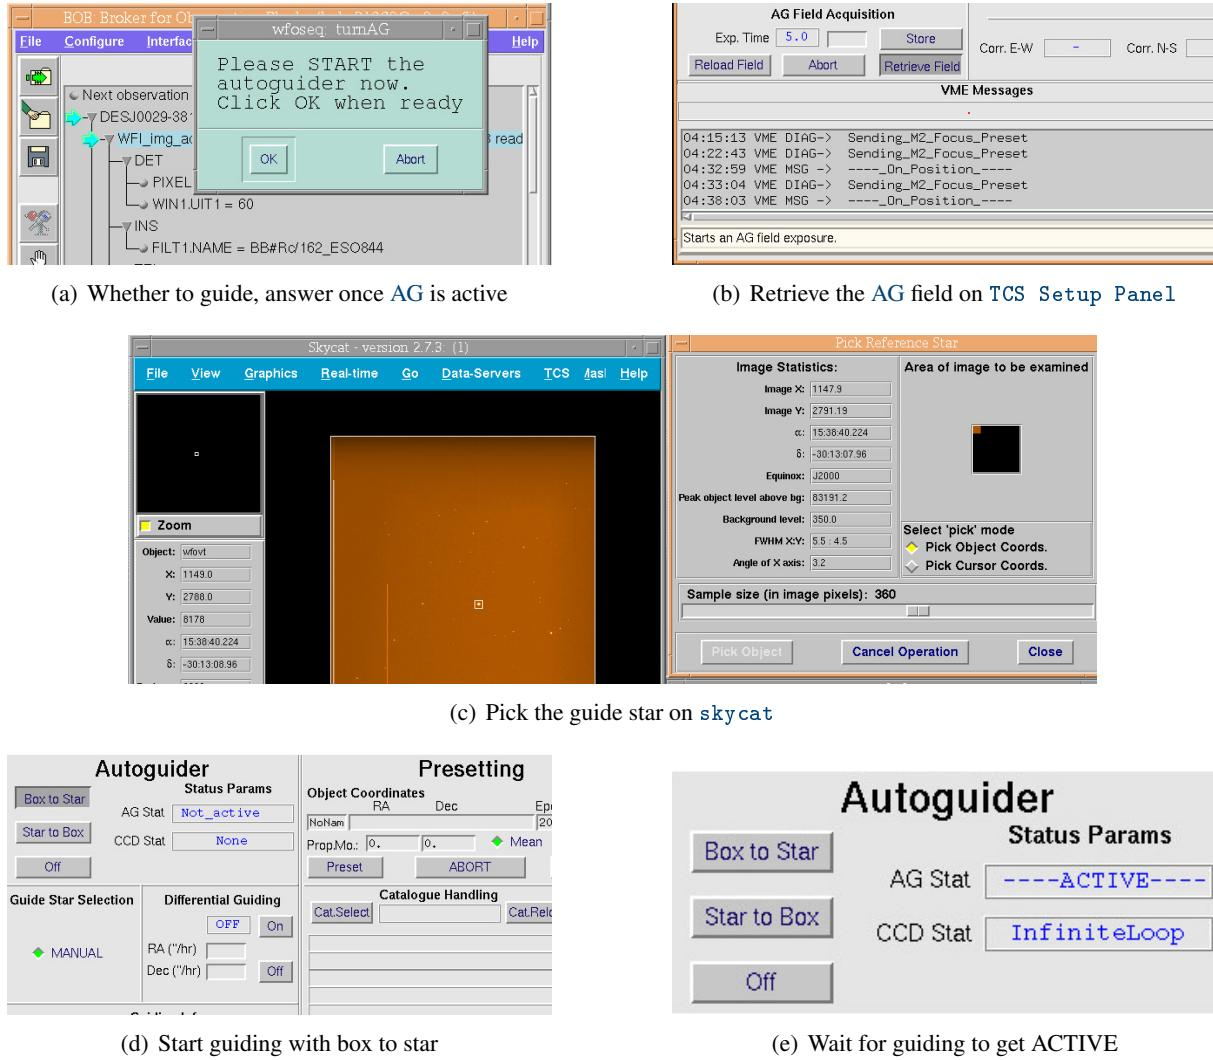

Figure 6.2: Setting the WFI AG for targets outside the solar system
A graphical outline of the procedure is given in Fig. 6.2, p. 56 in the case no differential guiding (for solar
- A. On the TCS workstation, acquire the guide field (Fig. 6.2(b), p. 56)
- C. On the autoguider windows (Fig. 11.3, p. 103), choose the guide star (Fig. 6.2(c), p. 56)
- D1. Activate the guiding (Fig. 6.2(d), p. 56)
- D2. Wait for guiding to start (Fig. 6.2(e), p. 56)
- E. Proceed with the observation, typically by clicking on pop-up asking for guiding (Fig. 6.2(a), p. 56)
- E. Proceed with the observation, typically by clicking on pop-up asking for guiding (Fig. 6.2(a), p. 56).